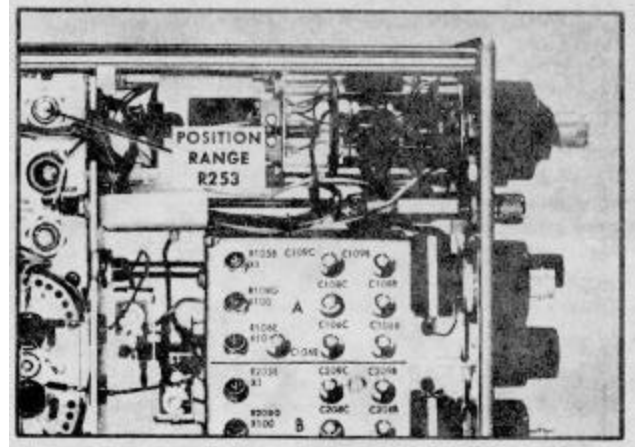

Fig. 5-9. Step 5 adjustment location.
5. Adjust POSITION RANGE R253 ①
- b. Adjust the POSITION RANGE control R253 (see Fig. 5-9) so the trace coincides with graticule center.